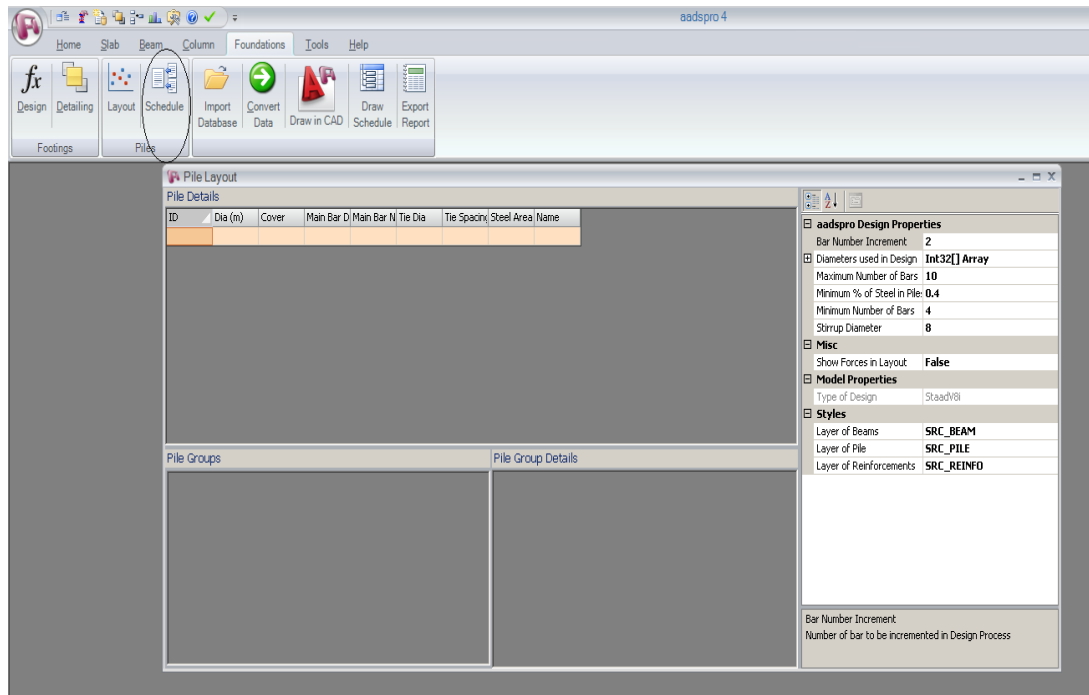

Fig 5.2.1
1. Click on the **Schedule** from tool bar (Fig 5.2.1)